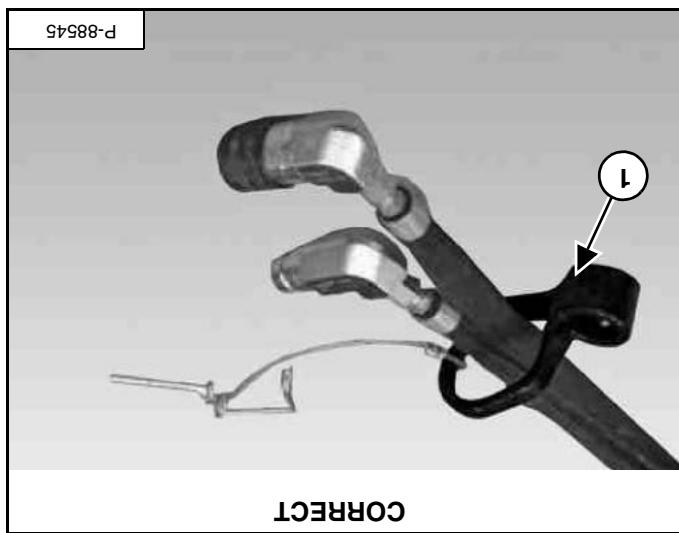

Figure 21
NOTE: The removable hose guide orientation may need to be changed for correct installation onto the loader. Shown is the removable hose guide (item 1) [Figure 21] correct orientation for a loader.